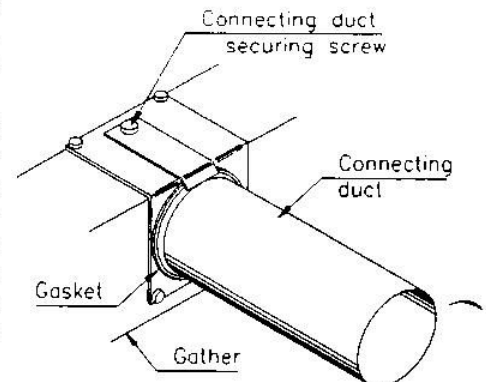

Fig. 7 Securing the connecting duct (rear outlet)
2. Fit the connecting duct to the gather spigot as shown in Fig. 7. Make sure the gasket is compressed and temporarily secure with the hexagon set screw provided.